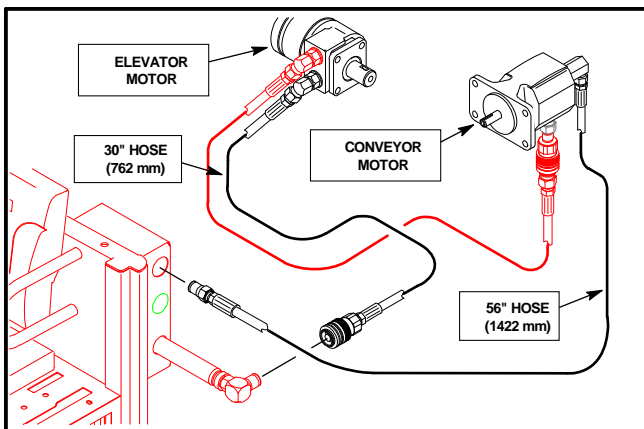

Figure 37
- Route the hose to the hydraulic control box and connect the male coupler to the upper-left female coupler in the control box as illustrated in Figure 37.